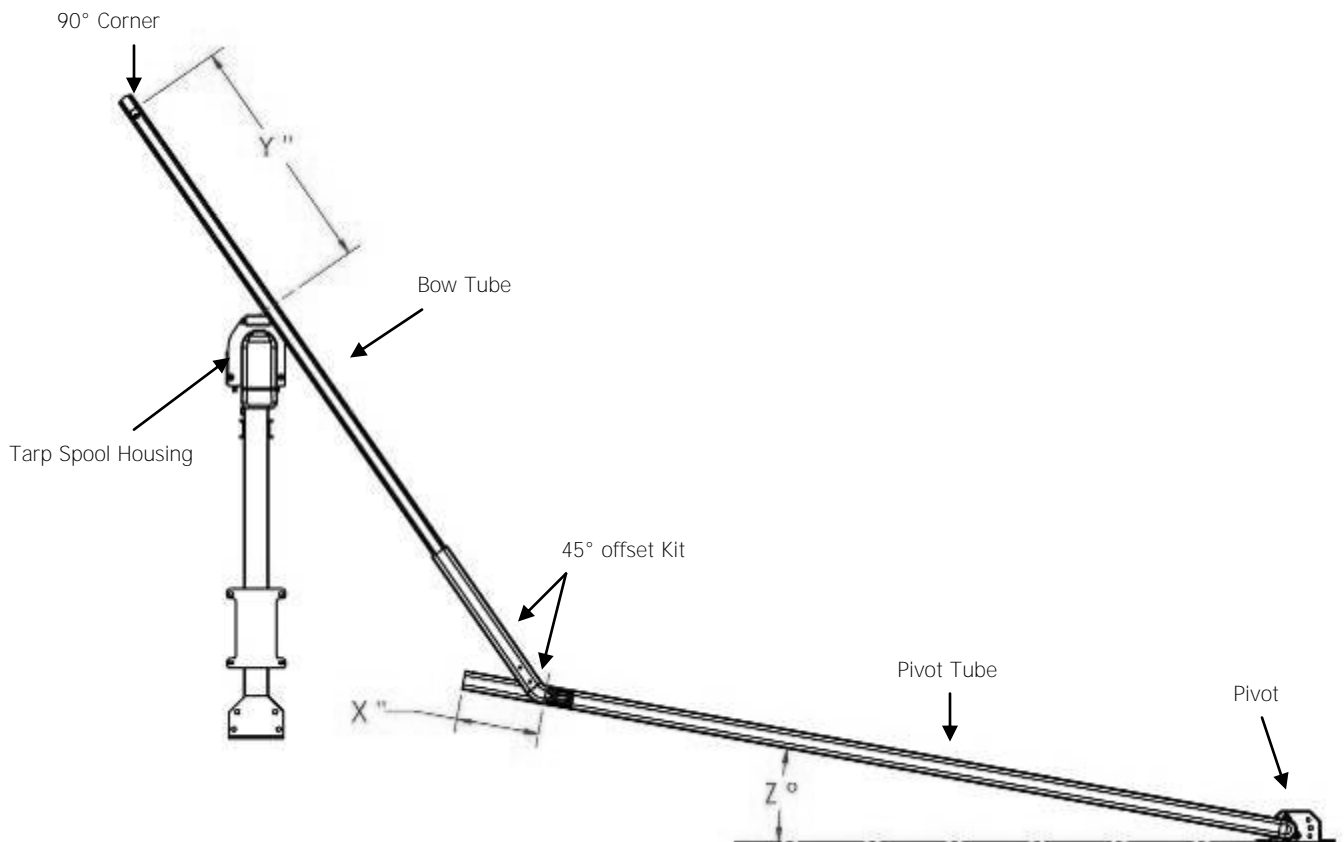

Fig. 3
Steps 3 – 9 refer to Fig. 3
- 5) Rotate the arm forward until it is in the desired location or angle from the **frame rail and prop in this position (see "Z°" in Fig. 3).**
- 8) With the upper arm assembly held in position mark the Pivot tube at the flare **of the 45° elbow, illustrated by dimension "X" in Fig. 3.**
- 9) Still with the upper arm assembly held in place measure from the center of the rubber pad on the tarp spool housing to the end of the bow tube, below the 90° corner. This is dimension "Y" in Fig. 3. Record this measurement.
- 11) Cut an amount equal to dimension "X" from Fig. 3 off both the driver and the passenger side pivot tubes.